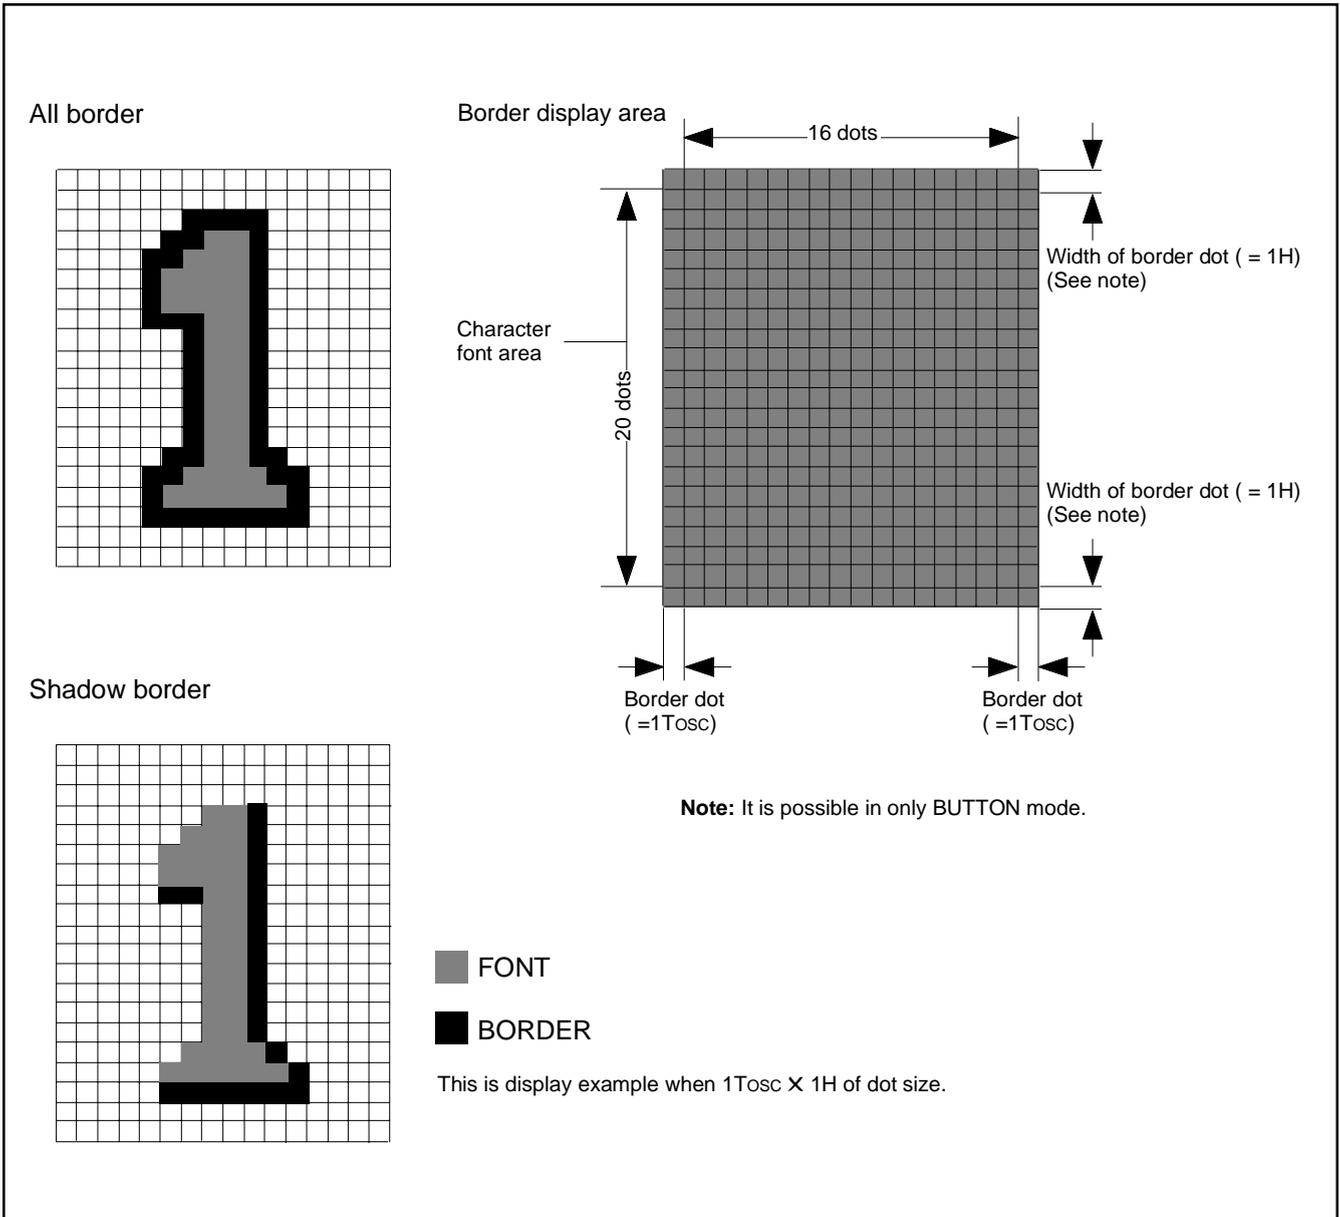

Fig. 8.10.23 Border Display Example and Border Area
**Notes 1:** The border dot area is the shaded area as shown in Figure 8.10.23. In BUTTON mode, it is possible to display in vertical out of character area of 20 dots.